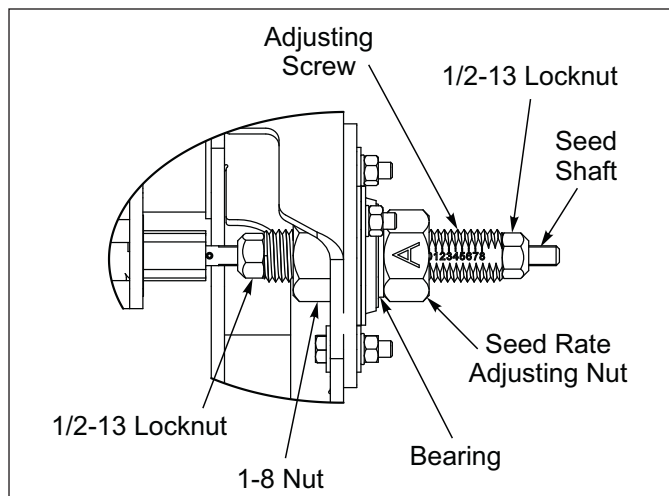

Figure 2-50: Rear Box Seed Rate Adjuster
30. Assemble onto the Rear Seed Box Seed Shaft the Seed Rate Adjusting Screw, 1-8 Nut, Bearing, Seed Rate Adjusting Nut and 1/2-13 Locknut. Place Bearing between Flangettes and attach to Bearing Carrier with 5/16-18 x 1 Bolts, Lock Washers and Nuts. **See Figures 2-50 and 2-51.**